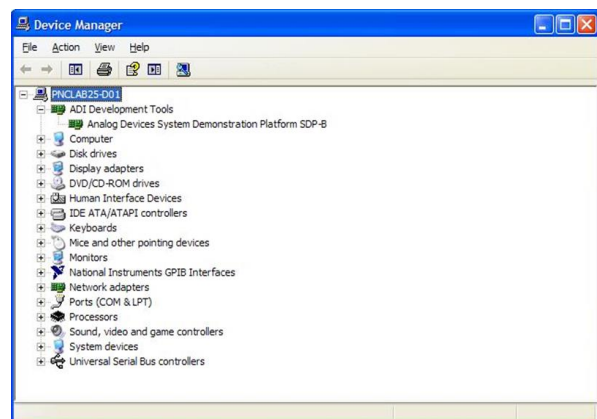

Figure 15. Device Manager: Checking the EVAL-ADAQ7980SDZ Is Connected to the PC Correctly
- b. Under **ADI Development Tools**, **Analog Devices System Development Platform SDP-B** appears (see Figure 15), indicating the **EVAL-SDP-CB1Z** driver software is installed and the **EVAL-ADAQ7980SDZ** is connected to the PC correctly.